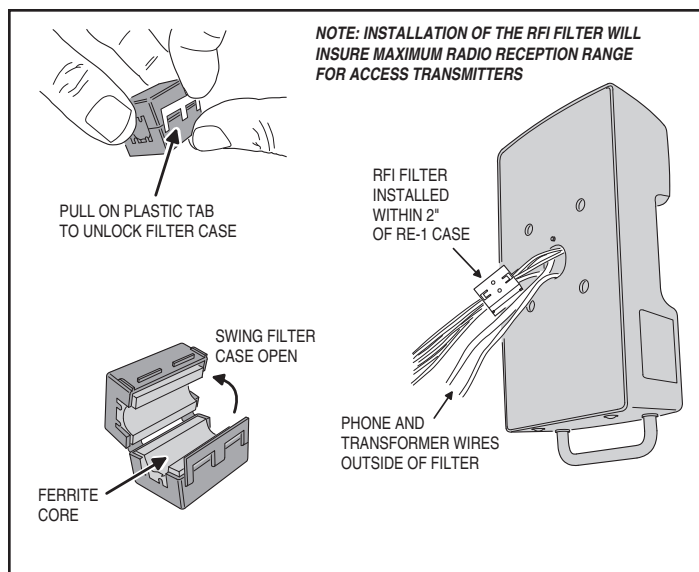

Figure 1. RFI Filter Installation
1. Open the ferrite RFI filter case by gently pulling on the side locking tab and swinging the case open (see Figure 1).
2. **After completing the RE-1 installation,** route all wires except the AC transformer and telephone lines through the groove in the ferrite core of the RFI filter. The filter must be installed outside of the RE-1 case. With the wires captured inside, close the ferrite RFI filter case and snap it shut (see Figure 1).